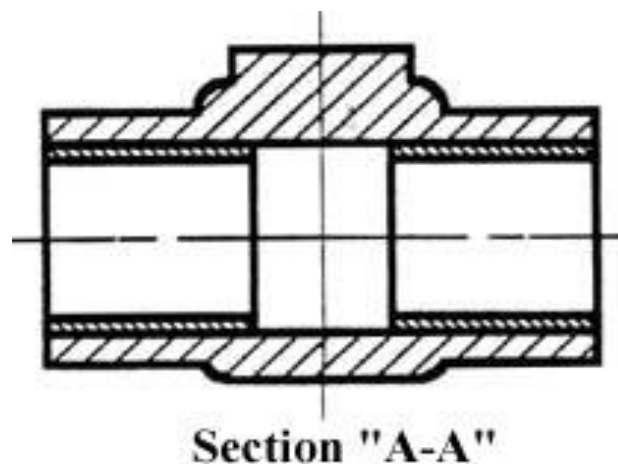

Figure 17 - Section "A-A"
- This cross-sectional view (section A-A, figure 17), one that is orthogonal to the viewing direction, shows the relationships of lengths and diameters better. These drawings are easier to make than isometric drawings.